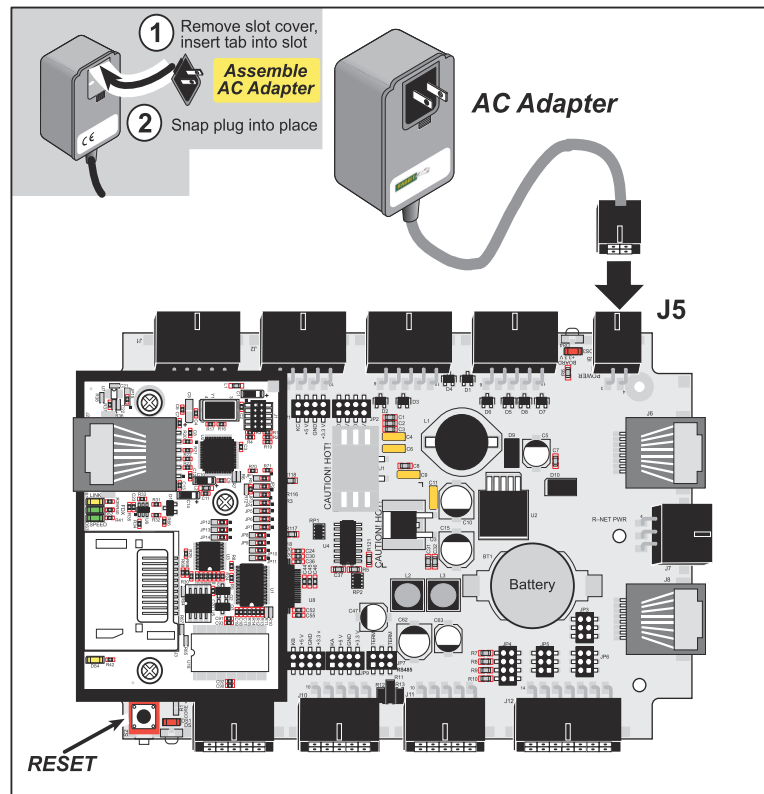

Figure 4. Power Supply Connections
2. Connect the power supply to header J5 on the BL4S200 as shown in Figure 4. Be sure to match the latch mechanism with the top of the connector to header J5 on the BL4S200 as shown. The Micro-Fit® connector will only fit one way.
First, prepare the AC adapter for the country where it will be used by selecting the plug. The Tool Kit presently includes Canada/Japan/U.S., Australia/N.Z., U.K., and European style plugs. Snap in the top of the plug assembly into the slot at the top of the AC adapter as shown in Figure 4, then press down on the spring-loaded clip below the plug assembly to allow the plug assembly to click into place. Release the clip to secure the plug assembly in the AC adapter.